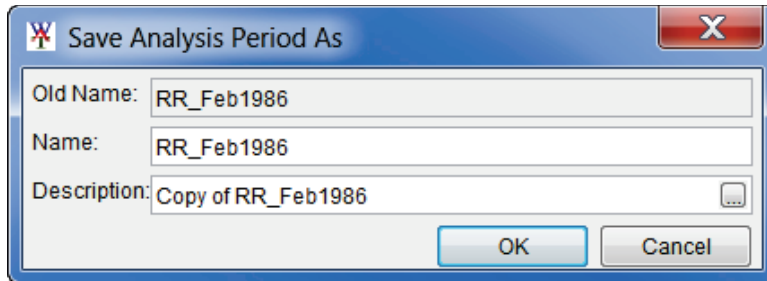

Figure 9.7 Save Analysis Period As Dialog Box
2. The **Save Analysis Period As** dialog box will open (Figure 9.7). In the **Name** box, enter a name for the new analysis period. Click **OK**, the **Save Analysis Period As** dialog box will close (Figure 9.7). The new analysis period will appear on the **Study Tree**, under the **Analysis Periods** folder.